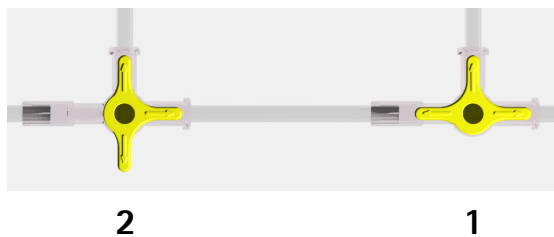

Fig. 4 - 4
4. Vent test setup, for position of the three-way cocks please see Fig. 4 - 3, start infusion and deliver first of all in to an open system (without pressure gauge).